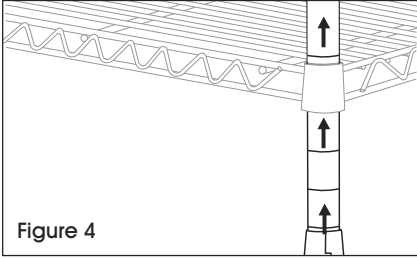

Figure 4
2. Slide post through underside of shelf until shelf slides firmly over supports. (See Figure 4)